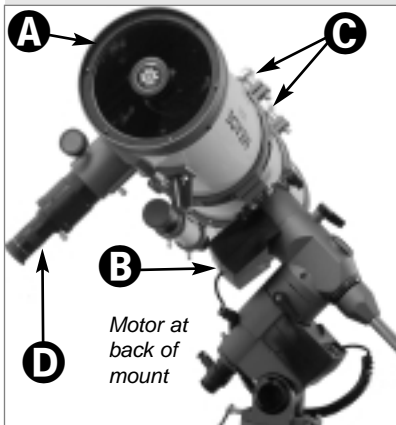

Fig. 42: Method #2 Setup. (A) Optical Tube; (B) Dec. Motor; (C) Cradle Ring Lock Knobs; (D) Eyepiece.
2. Refer to **Fig. 42** while performing this step. The Dec. motor (**B**) must be positioned so that it is at the back of the mount. The optical tube (**A**) must be approximately horizontal (*i.e.*, parallel with the horizon) and the counterweight shaft must be pointing straight down..
If using a Schmidt-Newtonian model, loosen the cradle ring locks knobs (**C**) and move the optical tube until the eyepiece (**D**) points downward as shown in the **Fig. 42**. Re-tighten the cradle ring locks.